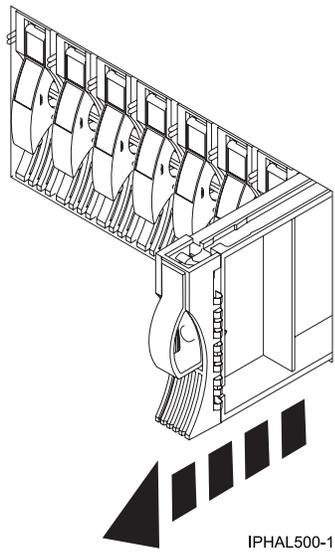

Figure 5. Removing a disk-drive filler from model
- a. Pull the disk-drive filler from the slot, as shown in Figure 5 on page 9.